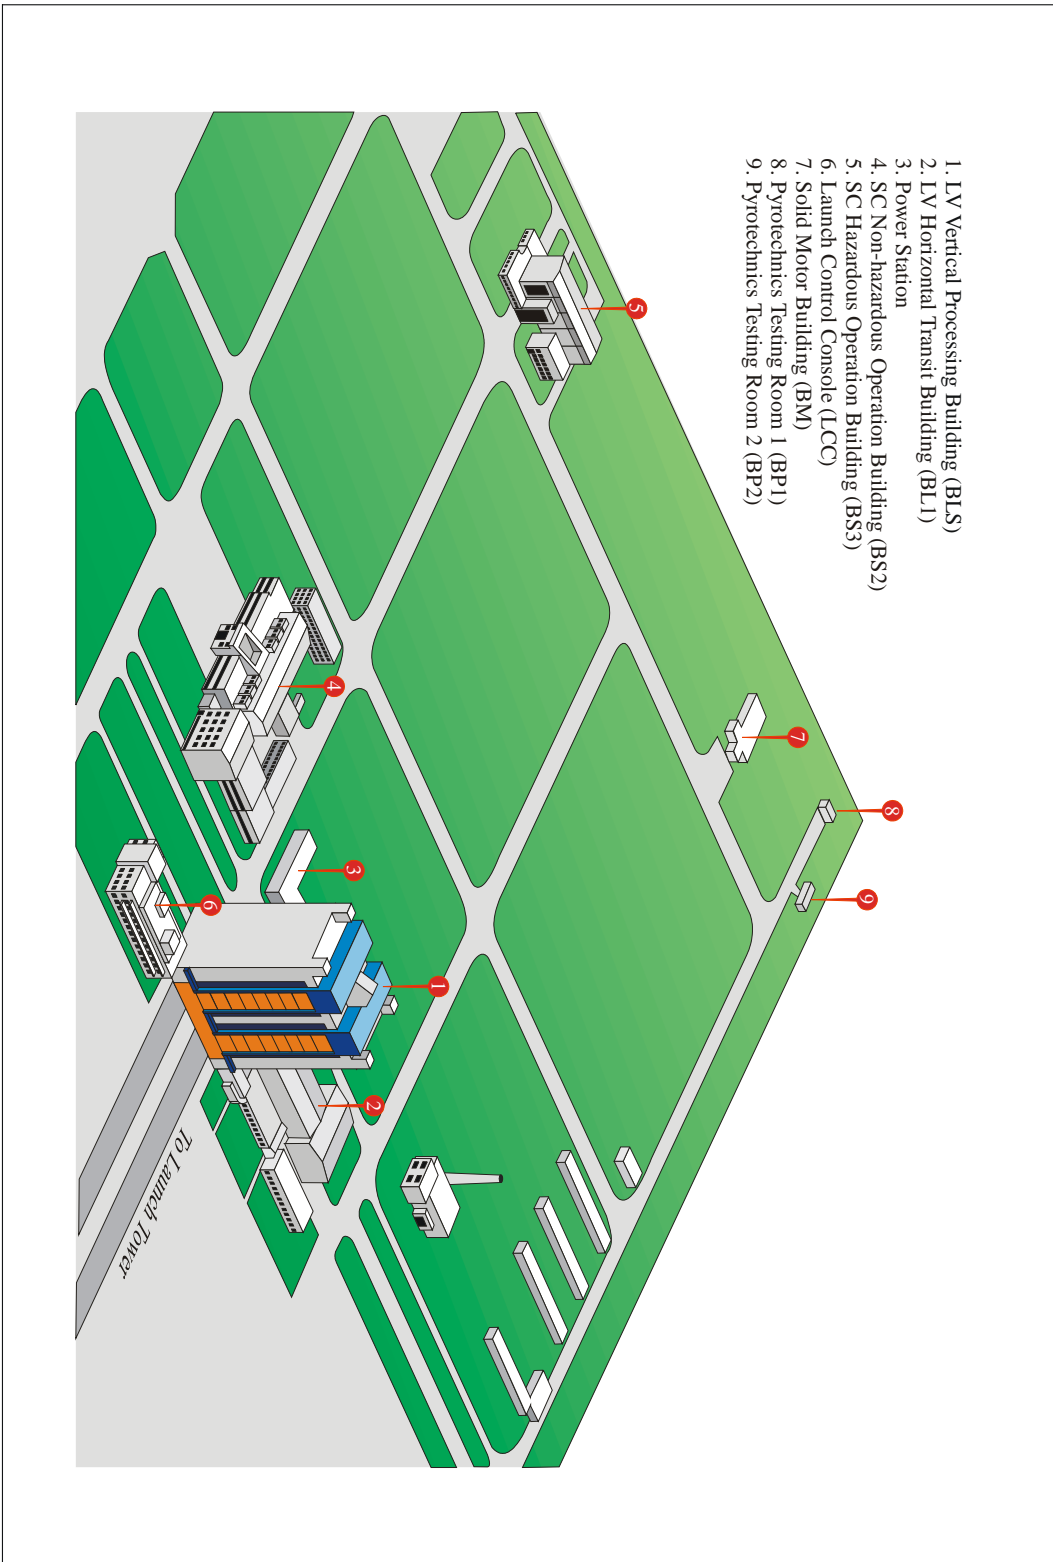

Figure A7-2 South Technical Center
Processing Building (BM) and Pyrotechnic Storage and Processing Building (BP1, BP2). The LV and the SC will be processed, tested, checked, assembled and stored in South Technical Center. Refer to **Figure A7-2**.